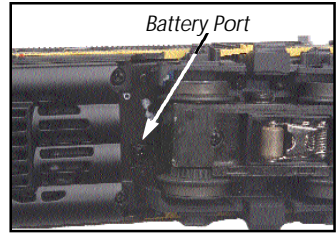

Figure 10- Battery Port
- Use M.T.H.'s battery recharger (sold separately) that plugs into the wall outlet and a special port under the engine (see figure 10) to recharge the battery overnight without leaving it on the track.